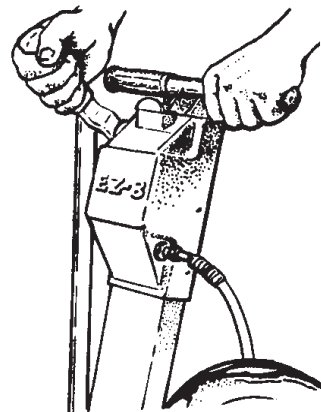

Figure 5
This machine must be connected to the electrical ground to protect the operator from electric shock. The machine has a power cord with two main conductors and one earthing conductor. Connect the plug to the type of receptacle shown in figure 5. The green and yellow conductor cord is the ground wire. Never connect this wire to any terminal other than the ground terminal.
3. Insert control link into notch and slide collar to pin. Raise sanding drum with control lever. See figure 5 & 6.